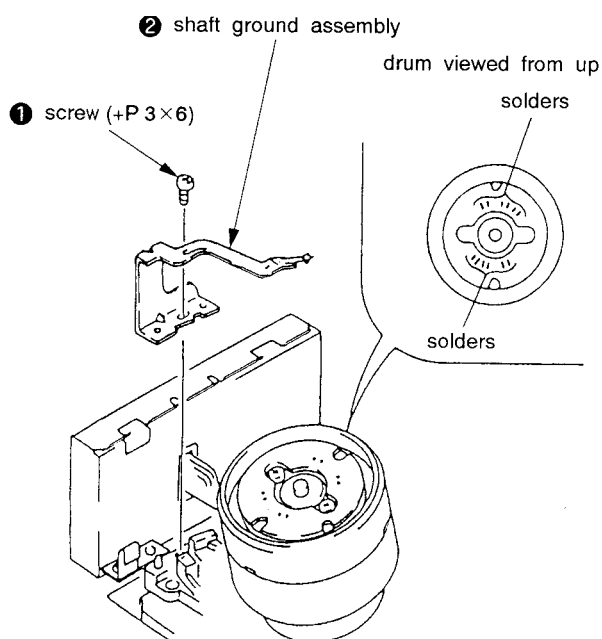

Fig. 4.
- 1) Remove the screw ❶ (+P3×6) and take out the shaft ground assembly ❷. (See Fig. 4.)